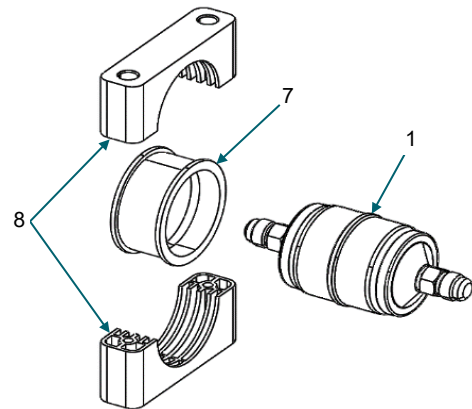

Figure 8:
- Remove two fasteners securing Block Clamp to plate (*not shown*). *Figure 8*
- Remove (1) Fuel Filter from (7) Block Clamp and (8) Isolator. *Figure 8*
- (7) Block Clamp, (8) Isolator *Figure 8*